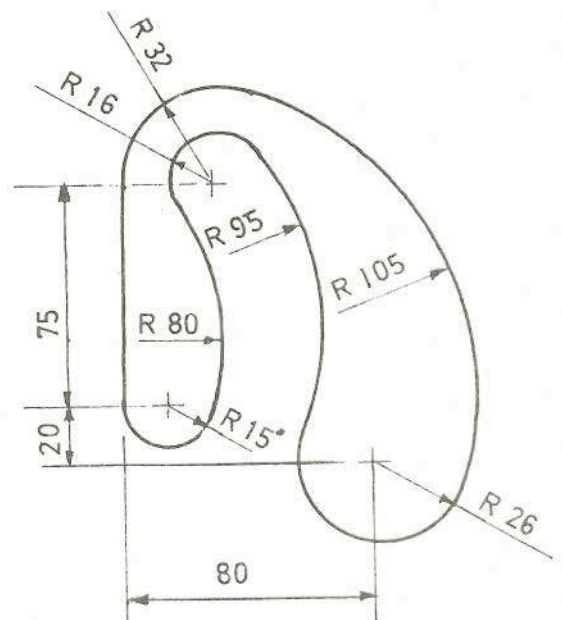

Fig. 7
7. (a) Draw the design shown in Fig. 7 to the given dimensions. Show clearly how to obtain all points of contact for the tangential arcs.